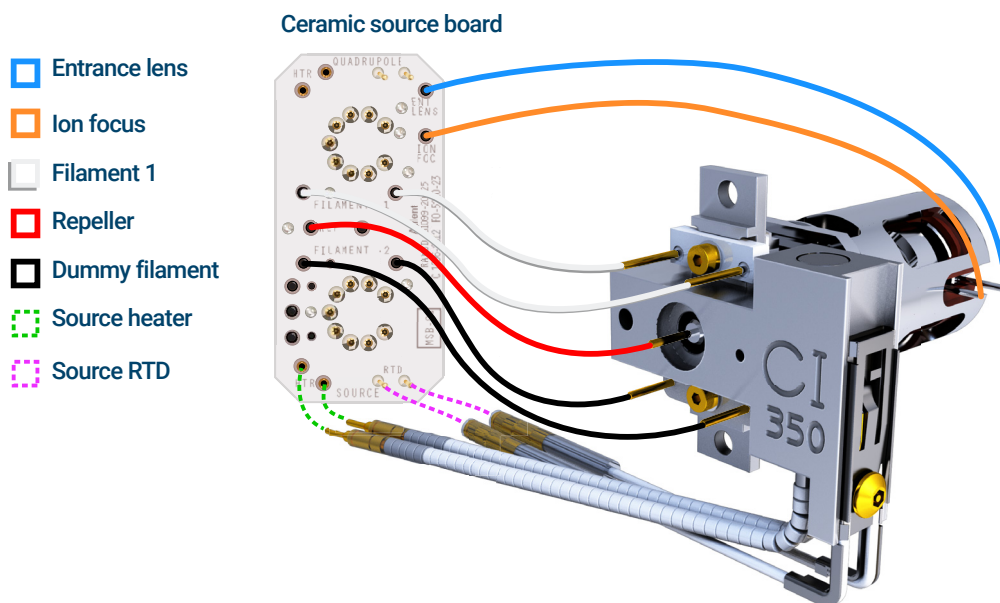

Figure 76. Wiring between the CSB and the CI source
- 1 Use tweezers or pliers to connect or disconnect the ceramic board wire leads at the source connectors. (See Figure 76.)